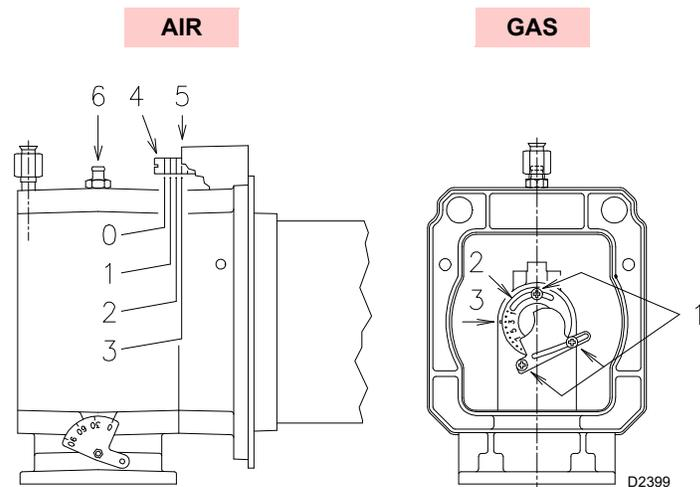
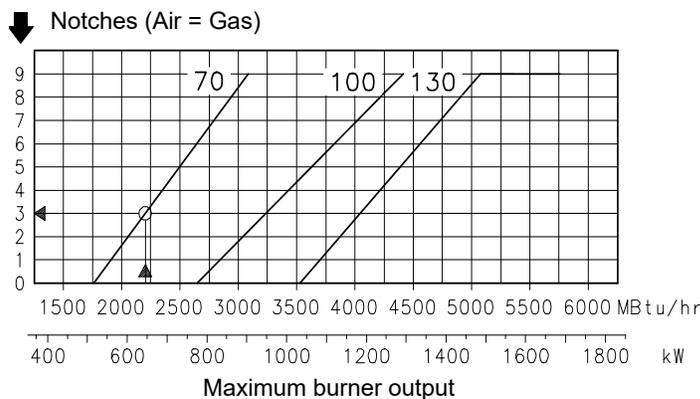

Fig. 11
Fig. 12
Installation operations are now at the stage where the blast tube and sleeve are secured to the boiler as shown in Fig. 11.
In diagram (Fig. 12) find the notch to use for adjusting the air and the gas.
Turn screw 4)(Fig. 11) until the notch identified is aligned with the front surface 5) of the flange.
Loosen the 3 screws 1)(Fig. 11) and turn ring 2) until the notch identified is aligned with index 3).
If we consult diagram (Fig. 12) we find that for this output, air must be adjusted using notch 3)(Fig. 11).
Diagram (Fig. 12) shows the ideal settings for the ring 2)(Fig. 11).
If the gas main pressure is too low to reach the maximum output operation pressure indicated on page 21, and if the ring 2)(Fig. 11) is not fully open, it can be opened wider by 1 or 2 notches.
Continuing with the previous example, page 21 indicates that for burner RS 70/M with output of 2200 MBtu/hr a pressure of approximately 2.36 "WC is necessary at test point 6)(Fig. 11).
If the pressure cannot be reached, open the ring 2)(Fig. 12) to notch 4 or 5.
- Gas ring 2)(Fig. 11, page 17) adjusted as indicated in diagram (Fig. 12, page 17).
- Gas ring Fig. 11, page 17 adjusted as indicated in diagram (Fig. 12)